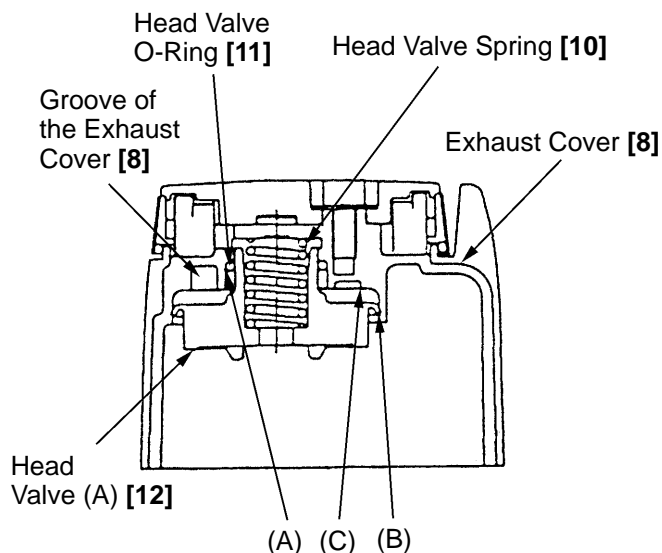

Fig. 4
- Before reassembly, apply grease to the sliding portion (A) of the Exhaust Cover [8] and Head Valve (A) [12], lip portions (B) and (C) of Head Valve (A) [12], and charge about 0.5 g of grease into the groove of the Exhaust Cover [8] (Fig. 4). Push Head Valve (A) [12] in the Exhaust Cover [8] together with the Head Valve O-Ring [11]